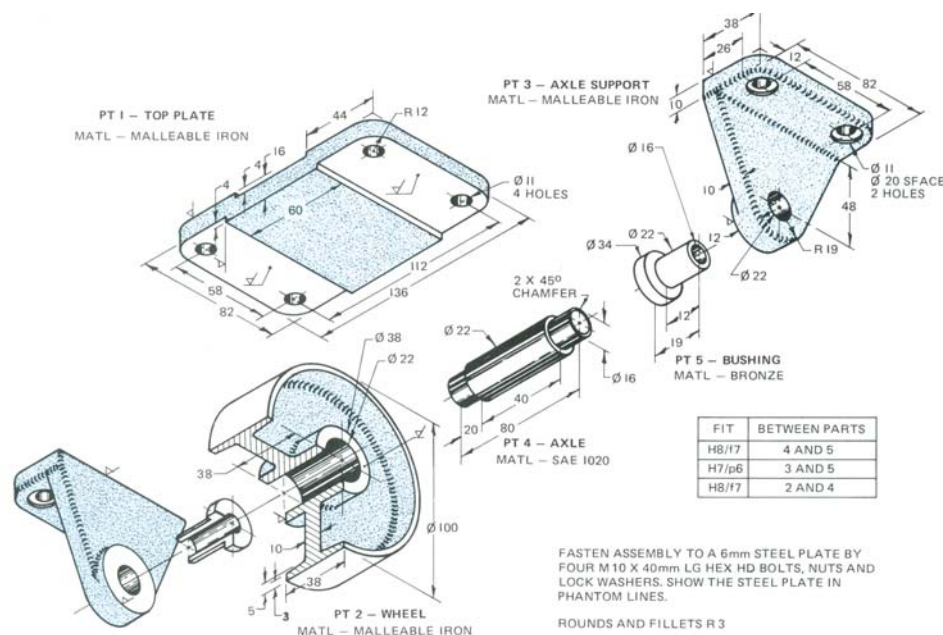

Figure 1
1. Create 3D CAD files of top plate, axle support pieces, wheel, axle and bushing as seen in Figure 1. Convert CAD files to STL files.